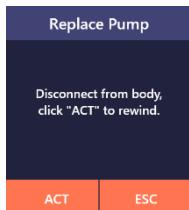

Figure 11.1
**(1)** Disconnect from body, click "ACT" to rewind the push rod then the user can continue to replace the pump, or click "ESC" to return to the "More" interface (as shown in Figure 11.1).